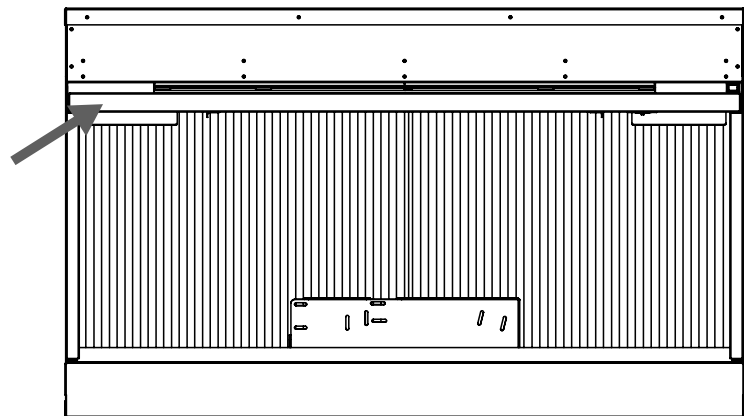

Figure 18: Front Glass Retainer
1. Remove the glass retainer shown in Figure 18 by pulling back from the bottom to release it from the magnets.